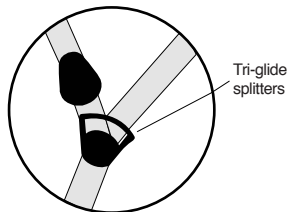

Fig. 3.
- The tri-glide splitter as shown in Fig. 3 is a key component for positioning the helmet. Adjust the tri-glide splitters on each side of the helmet so that the left strap and right strap come together just under the earlobes.